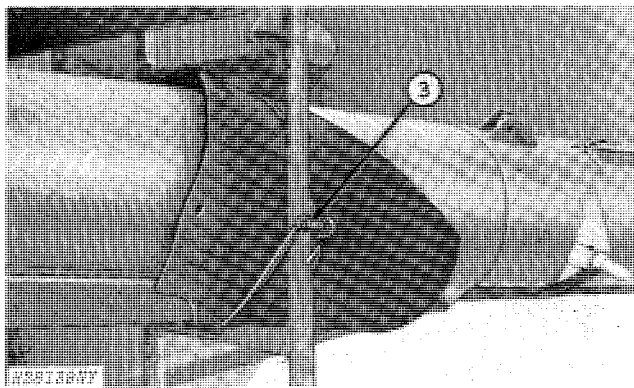

Fig. 16-Removing Unloading Auger from Under Combine
3. Cut shipping wire securing unloading auger to the separator ladder (Fig. 16). Slide auger and rubber spout out from under combine.